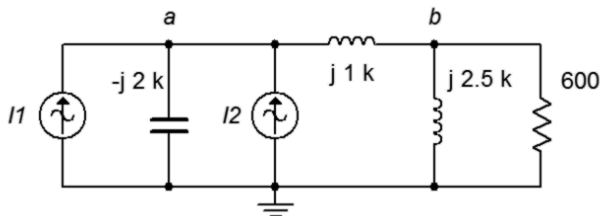

Figure 4.17
27. For the circuit of Figure 4.17, determine the current through the capacitor. $I_1 = 10\text{E-}3\angle 0^\circ$ A and $I_2 = 3\text{E-}3\angle 90^\circ$ A.
28. For the circuit of Figure 4.17, determine voltages v_a and v_b . $I_1 = 10\text{E-}3\angle 0^\circ$ A and $I_2 = 3\text{E-}3\angle 90^\circ$ A.